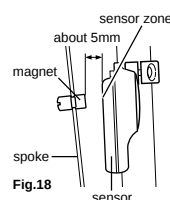

Fig.18
- (4) A 5mm clearance shall be kept between the sensor and magnet(fig.18). Then align the magnet with sensor zone (fig.16). Meanwhile, the sensor shall aim at the main unit indicated by the triangle marked on the sensor. Then tighten the screw to secure the sensor in position. Cut the excess sensor band B with scissors or the like.